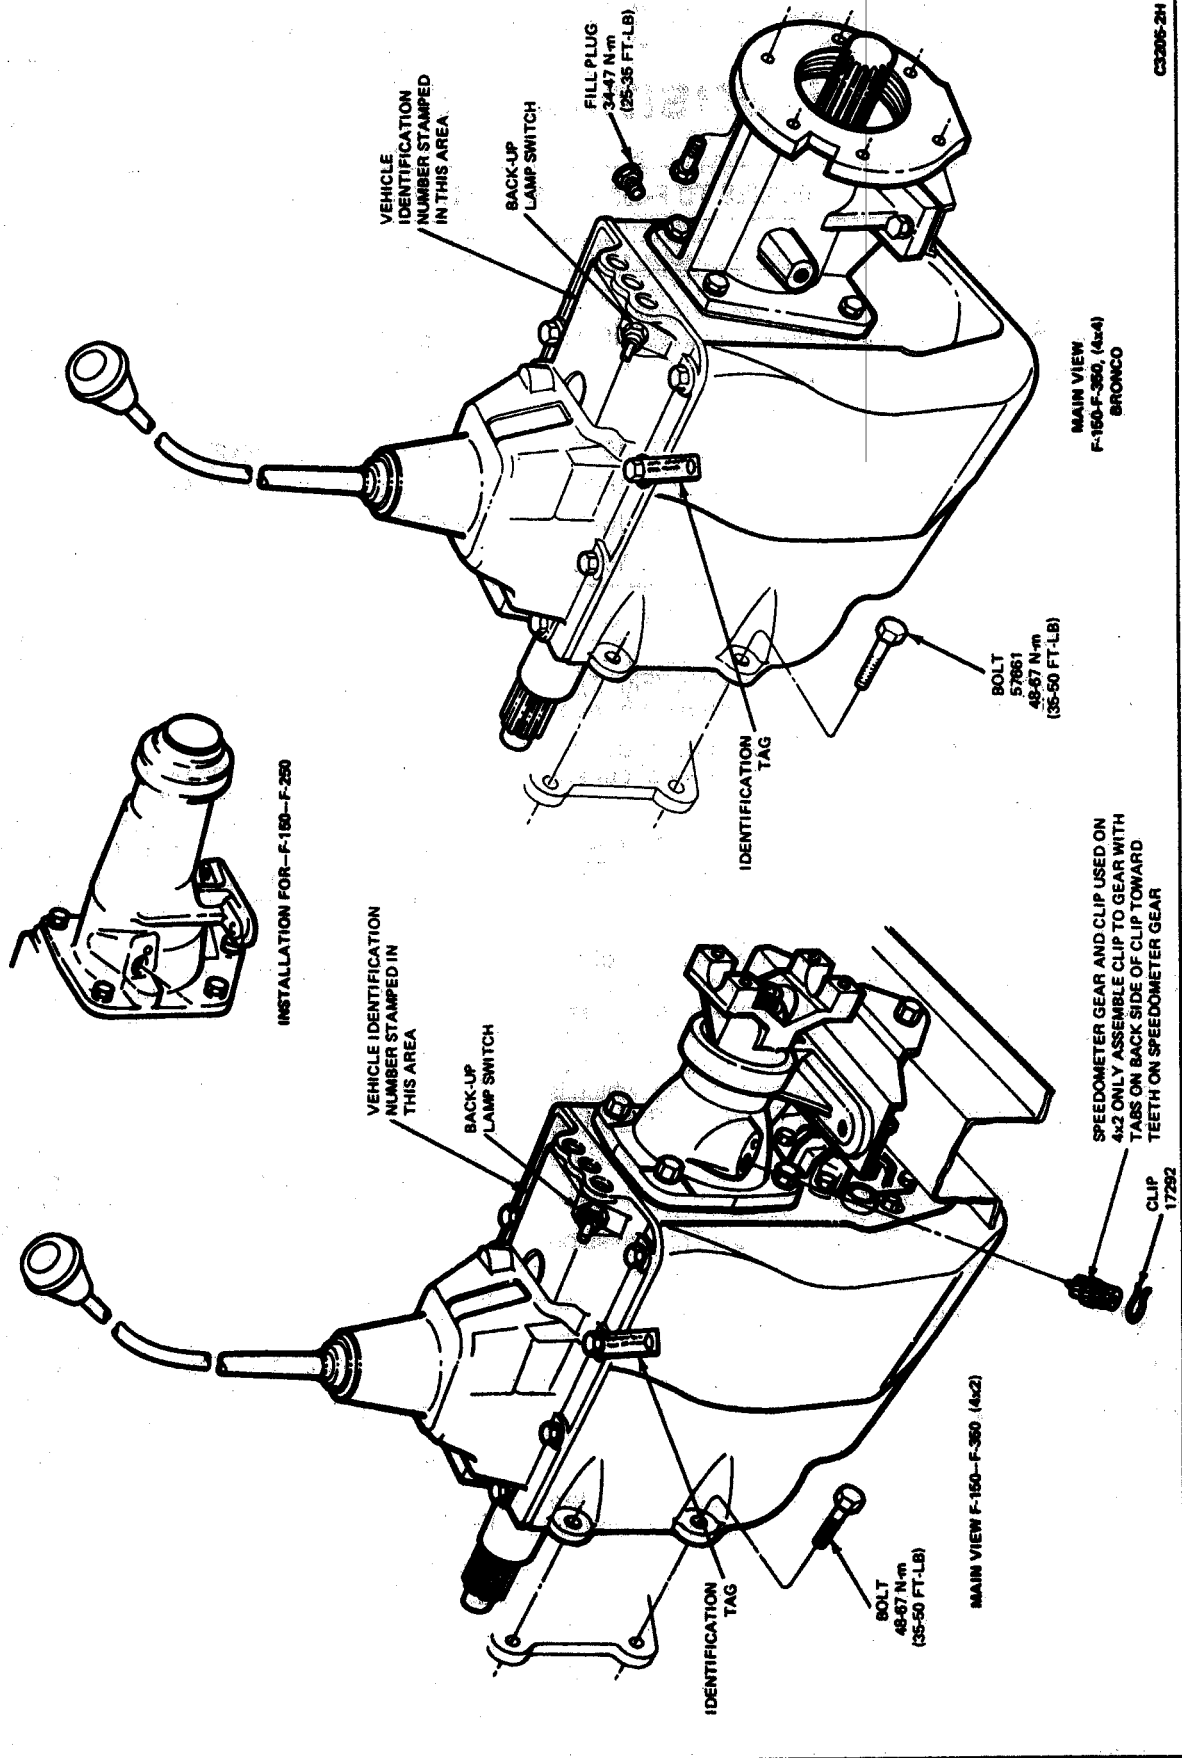

FIG. 1 Warner T-18 Four-Speed Transmission
The four-speed Model T-18 transmission, (Fig. 1), is equipped with a center, floor-mounted gear shift lever.
3. Disconnect the back-up lamp switch located at the rear of the gear shift housing cover (Fig. 1).